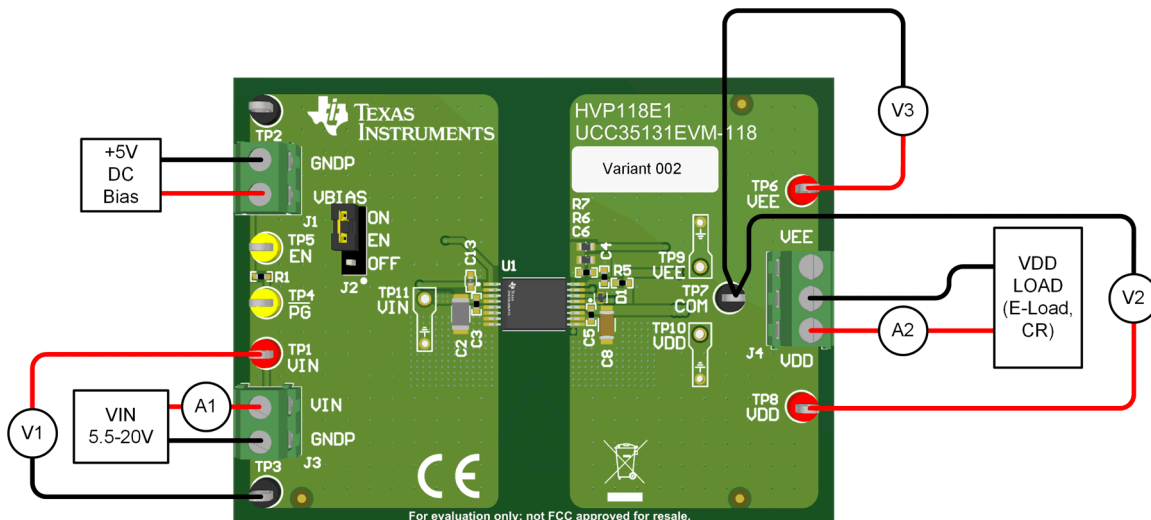

Figure 2-1. Typical Efficiency Measurement Setup
The UCC35131EVM-118 utilizes screw terminals for quickly connecting to V_{IN} , VDD and VEE. Connecting the appropriate ammeters and voltmeters, as shown in Figure 2-1, allows accurate EVM efficiency measurements to be made.
4. Connect a variable load between J4:1 (VDD) and J4:2 (COM). If using an electronic load, set to constant resistance (CR), 450Ω (~500mW). Leave the load disabled until the EVM is powered.
5. Connect a second load between J4:2 (COM) and J4:3 (VEE). If using an electronic load, set to constant resistance (CR), 2.5kΩ (~10mW). Leave the load disabled until the EVM is powered. Since the required load is small, a through-hole, 500mW, load resistor can be connected between J4:2-3.
6. Some electronic loads are not able to regulate/stabilize CC when setting in the low mA range. Monitor the input current and load currents by inserting ammeters as shown in Figure 2-1. A current probe can be used with the oscilloscope to verify the stability of the DC current being regulated by an electronic load.